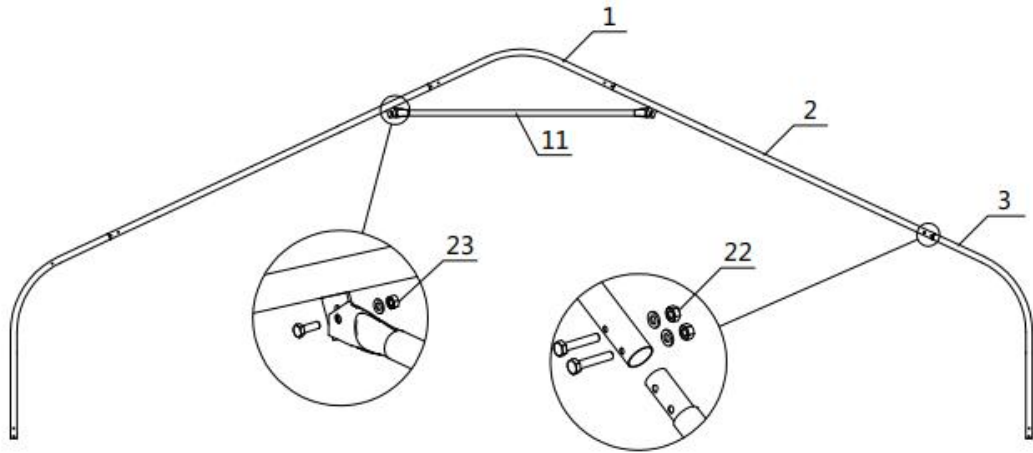

Figure 3
- Parts used to install (8) middle trusses in this step (refer to figure 3) :